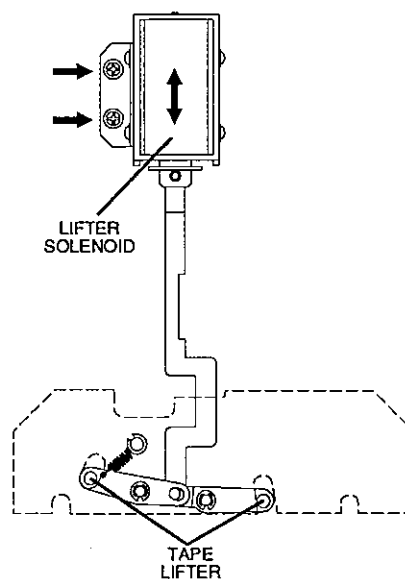

Figure 4-15
5. Loosen the two screws that attach the Tape Lifter Solenoid to the Deck Plate, and adjust the Lifter clearance by sliding the Solenoid until the clearance between the tape and Tape Guide is correct (refer to **Figure 4-15**).